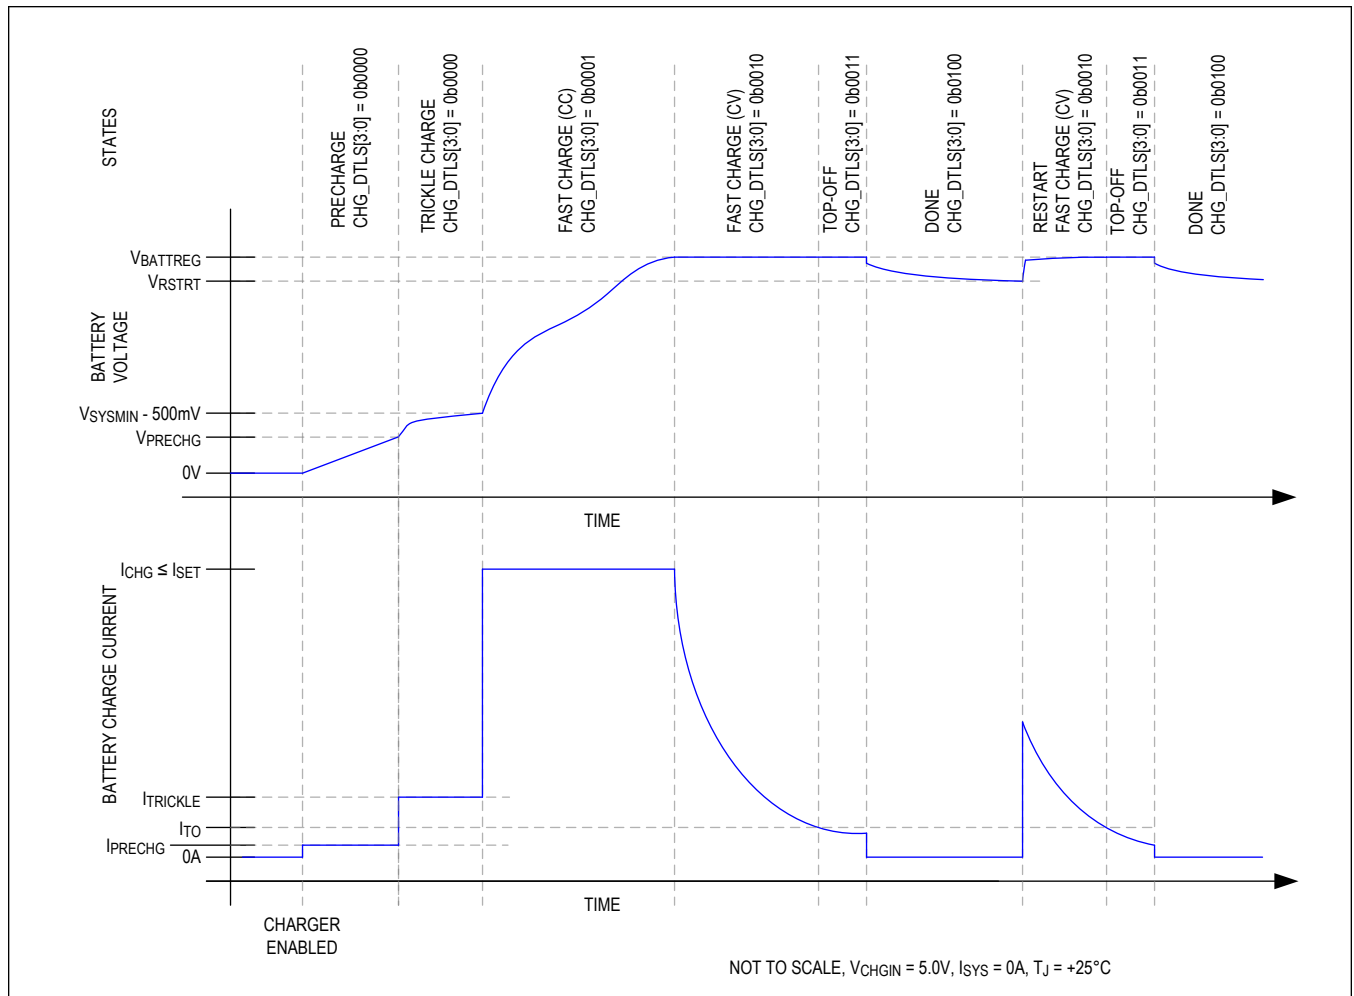
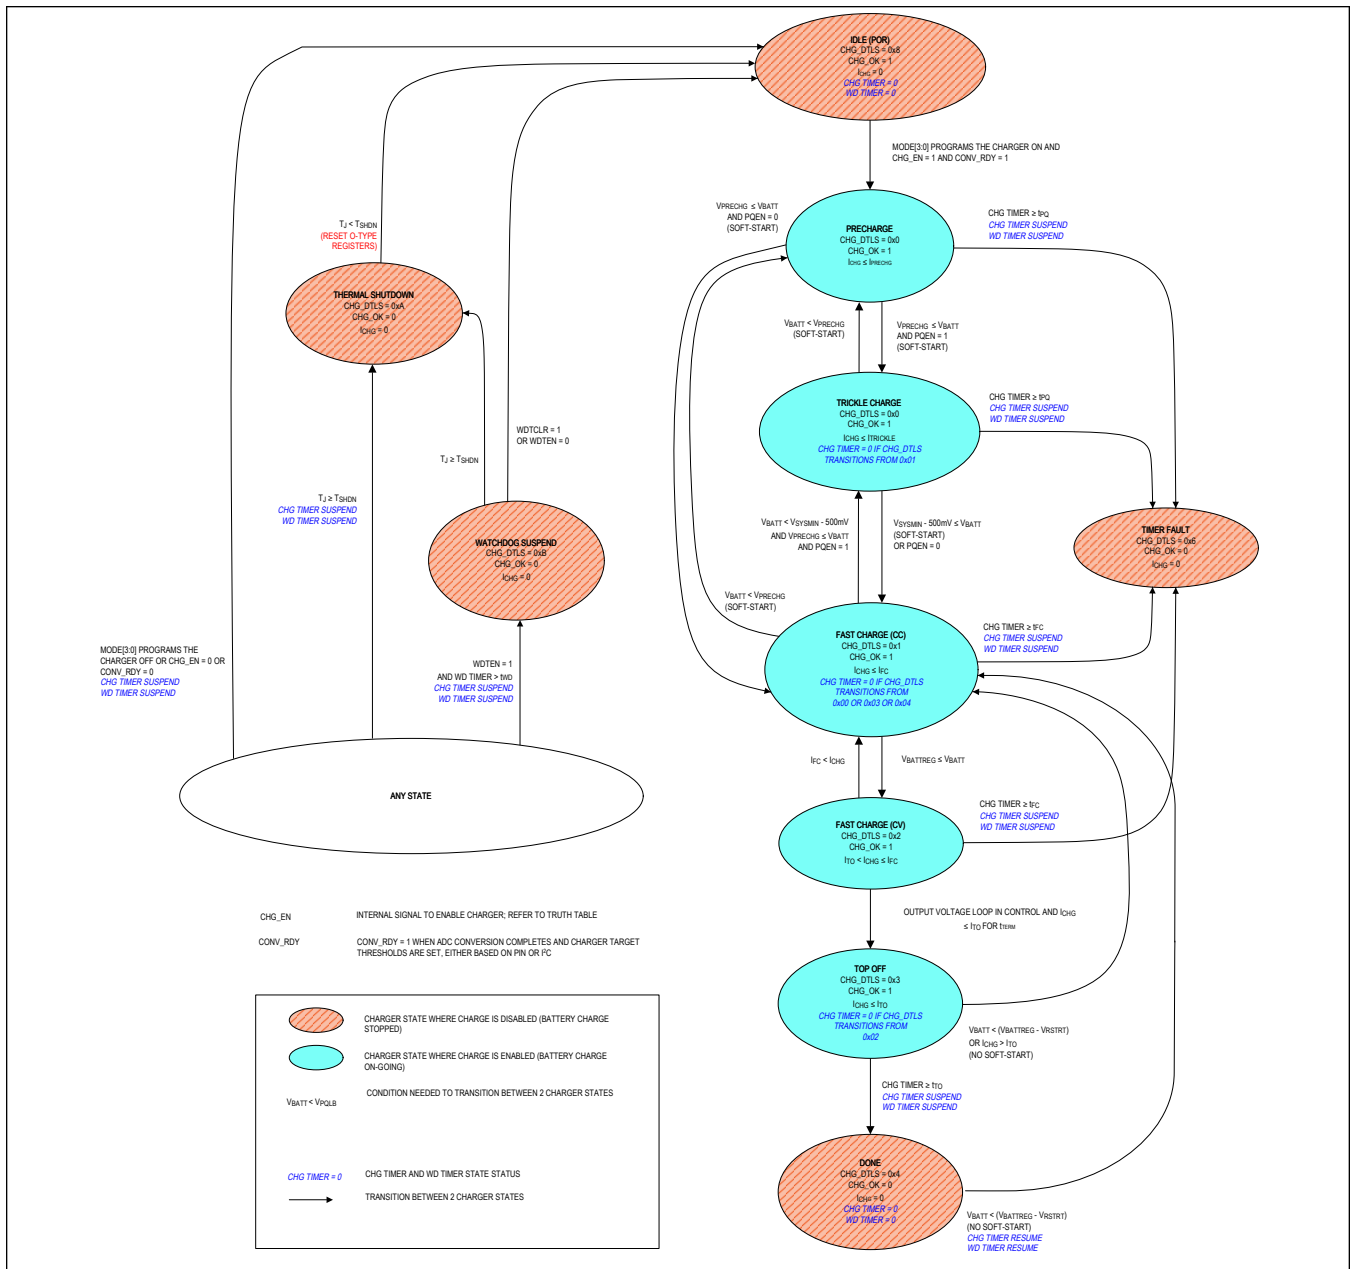

Figure 1. Li Battery Charge Profile
Figure 2. Charger State Diagram
The MAX77960B/MAX77961B utilize several charging states to safely and quickly charge batteries as shown in Figure 1 and Figure 2. Figure 1 shows an exaggerated view of a Li+/Li-Poly battery progressing through the following charge states when there is no system load and the die and battery are close to room temperature: Prequalification → Fast-charge → Top-off → Done.
From any state shown in Figure 2 except thermal shutdown, the no input power or charger disabled state is entered whenever the charger is programmed to be off or the charger input CHGIN is invalid. After being in this state for  $t_{SCIDG}$ , CHG\_DTLS is set to 0x08 and CHG\_OK is set to 1. A CHG\_I interrupt is generated if CHG\_OK was 0 previously.
As shown in Figure 2, the charger enters the precharge state when the battery voltage is less than  $V_{PRECHG}$ . After being in this state for  $t_{SCIDG}$ , a CHG\_I interrupt is generated if CHG\_OK was 0 previously, CHG\_OK is set to 1 and CHG\_DTLS is set to 0x00. In the precharge state, charge current into the battery is  $I_{PRECHG}$ .
As shown in Figure 2, the charger state machine is in trickle charge state when  $V_{PRECHG} < V_{BATT} < V_{SYSTEMIN} - 500mV$ . After being in this state for  $t_{SCIDG}$ , a CHG\_I interrupt is generated if CHG\_OK was 0 previously, CHG\_OK is set to 1 and CHG\_DTLS = 0x00.
As shown in Figure 2, the charger enters the fast-charge constant current (CC) state when  $V_{SYSTEMIN} - 500mV$  (typ) <  $V_{BATT} < V_{BATTREG}$ . After being in the fast-charge CC state for  $t_{SCIDG}$ , a CHG\_I interrupt is generated if CHG\_OK was 0 previously, CHG\_OK is set to 1 and CHG\_DTLS = 0x01.
As shown in Figure 2, the charger enters the fast-charge constant voltage (CV) state when the battery voltage rises to VBATTREG from the fast-charge CC state. After being in the fast-charge CV state for tSCIDG, a CHG\_I interrupt is generated if CHG\_OK was 0 previously, CHG\_OK is set to 1 and CHG\_DTLS = 0x02.
In the fast-charge CV state, the battery charger maintains VBATTREG across the battery and the charge current is less than or equal to IFC. As shown in Figure 1, charger current decreases exponentially in this state as the battery becomes fully charged.
As shown in Figure 2, the top-off state can only be entered from the fast-charge CV state when the charger current decreases below ITO for tTERM. After being in the top-off state for tSCIDG, a CHG\_I interrupt is generated if CHG\_OK was 0 previously, CHG\_OK is set to 1, and CHG\_DTLS = 0x03. In the top-off state the battery charger maintains VBATTREG across the battery and typically the charge current is less than or equal to ITO.
As shown in Figure 2, the battery charger enters its done state after the charger has been in the top-off state for  $t_{TO}$ . After being in this state for  $t_{SCIDG}$ , a CHG\_I interrupt is generated only if CHG\_OK was 0 previously, CHG\_OK is set to 0 and CHG\_DTLS = 0x04.
The battery charger provides both a charge timer and a watchdog timer to ensure safe charging. As shown in Figure 2, the charge timer prevents the battery from charging indefinitely. The time that the charger is allowed to remain in its prequalification states is  $t_{PQ}$ . The time that the charger is allowed to remain in the fast-charge CC and CV states is  $t_{FC}$ , which is programmable with FCHGTIME. Finally the time that the charger is in the top-off state is  $t_{TO}$  which is programmable with TO\_TIME. Upon entering the timer fault state a CHG\_I interrupt is generated without a delay, CHG\_OK is cleared and CHG\_DTLS = 0x06.
The charger is off in the timer fault state. The charger can exit the timer fault state when the charger is programmed to be off then on again through the MODE bits or when DISQBAT pin is toggled from L-H-L. Alternatively, the charger input can be removed and reinserted to exit the timer fault state (see the ANY STATE bubble in Figure 2).
The battery charger provides both a charge timer and a watchdog timer to ensure safe charging. As shown in Figure 2, the watchdog timer protects the battery from charging indefinitely in the event that the host hangs or otherwise cannot communicate correctly. The watchdog timer is disabled by default with WDTEN = 0. Enable the feature by setting WDTEN = 1. With watchdog timer enabled, the host controller must reset the watchdog timer within the timer period ( $t_{WD}$ ) in order for the charger to operate properly. Reset the watchdog timer by programming WDTCLR = 0x01.
As shown in Figure 2, the state machine enters the thermal shutdown state when the junction temperature ( $T_J$ ) exceeds the device's thermal shutdown threshold ( $T_{SHDN}$ ). When  $T_J$  is close to  $T_{SHDN}$ , the charger would have already folded back the input current to 0A, (see the Thermal Foldback section for more details), so the charger and the DC-DC are effectively off. Upon entering this state, CHG\_I interrupt is generated if CHG\_OK was 1 previously, CHG\_OK is cleared, and CHG\_DTLS = 0x0A.